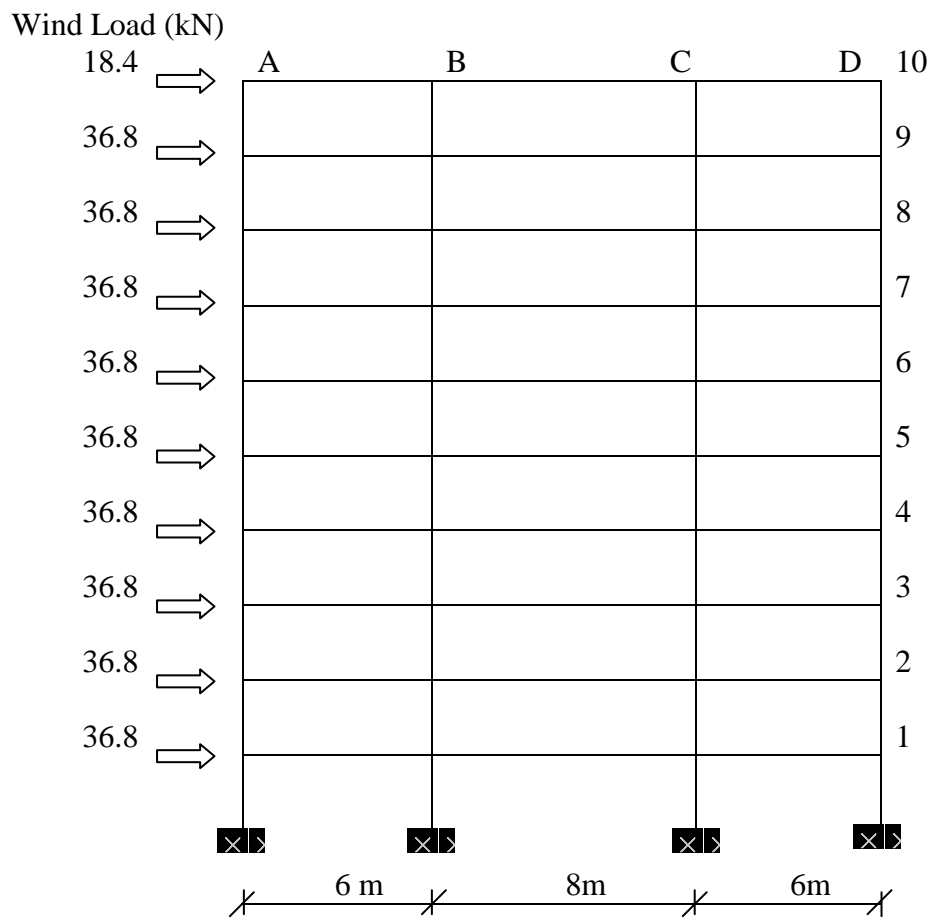

Figure 1
- (b) A ten stories rigid frame shown in Figure 1 is situated at Penang in the terrain category 3 with the basic wind speed of  $33.5 \text{ m/s}^2$ . The basic wind speed has been converted to equivalent horizontal force as shown in the Figure 1. The story height is typically 3.5 m, to give a total height of 35m. The frames are spaced at 9m. Using the Portal Method, calculate: